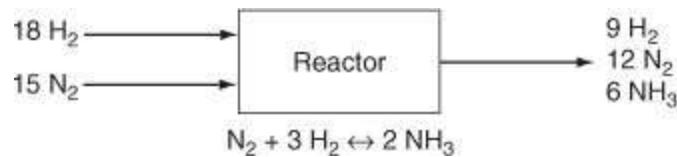

Figure 5.2. A reactor to produce NH_3
Fortunately, you only have to add one additional variable to account for the generation or consumption of each species i present in the system *if you make use of the extent of reaction* that was discussed in Section 5.2. To make the idea clear, let's examine the reaction of N_2 and H_2 to form NH_3 in the gas phase. Figure 5.2 presents the process as a steady-state, open system operating for a fixed interval so that the terms will be zero on the left-hand side of the equal sign in Equation \(5.7\). Figure 5.2 shows the measured values for the flows in gram moles.
You can conclude for the case of a single chemical reaction that the specification of the extent of reaction provides one independent quantity that will determine all of the values of the generation and consumption terms for the various species in the respective implementations of Equation (5.7) because the molar ratios of the reactants and products are fixed by the solo independent chemical reaction equation. The three species balances corresponding to the process in Figure 5.2 are listed below based on Equation (5.8), an equation directly derived from Equation (5.1) for an open, steady-state process:
Let's calculate ξ given that zero moles of NH_3 are introduced into a reactor and that 6 moles exit as in Figure 5.2. Then
2. What does the negative sign in front of ξ mean? The negative sign signifies that the chemical reaction equation was written to represent a direction that is the reverse of the one in which the reaction actually proceeds as in Figure 5.2.